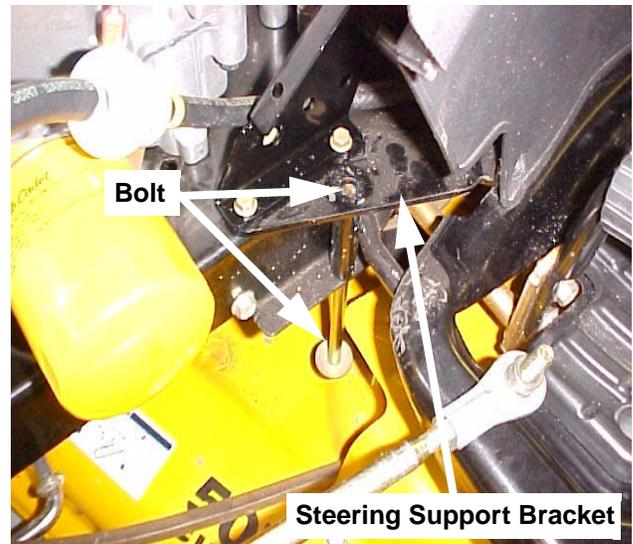

FIGURE 16
27. Install the 3/8-16 x 7.25" bolt, (Ref.#2 Figure 14) with bell washer, (Ref.#3 Figure 14) up through the fender support rod and LH steering support bracket. **NOTE:** Install the bolt until the threads are flush with the top of the LH steering support bracket. See Figure 16.